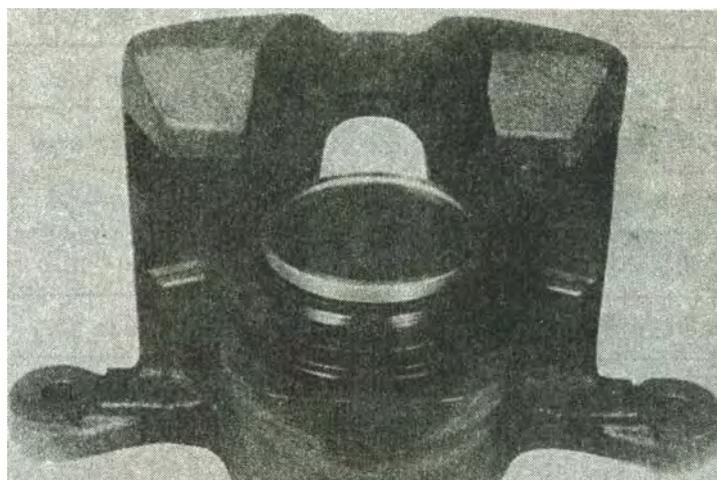

FIG.16-32
(4) After ensuring that the boot has been installed into cylinder groove rightly, pull piston from cylinder out a little but not take out. (FIG.16-32)